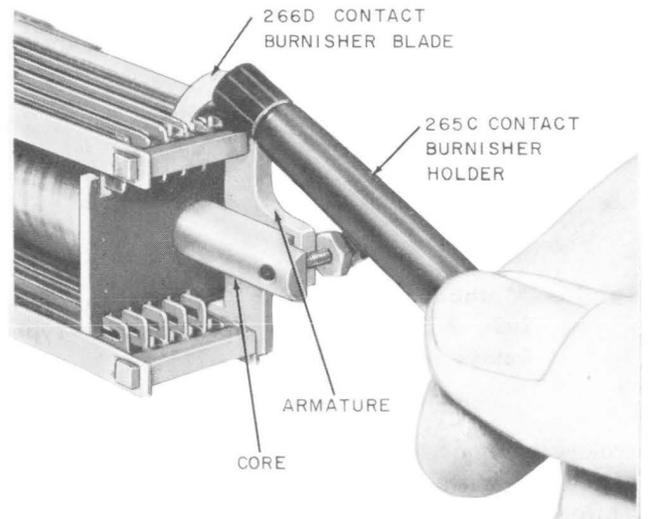
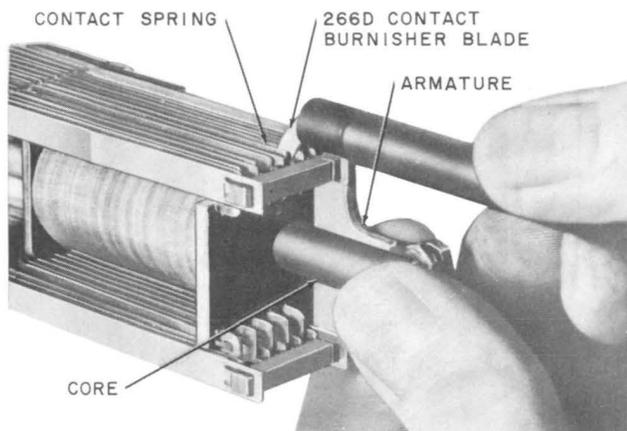

Fig. 14—Method of Inserting Contact Burnisher Blade on UB-Type Relays
Fig. 15—Method of Burnishing Contacts on UB-Type Relays
4.19 UB-Type Relays: Insert the 266D blade in the 265C contact burnisher holder so the outer tip of the blade extends approximately at right angles to the holder as shown in Fig. 14. In burnishing normally open contacts, insert the burnisher blade between the contacts so the blade is over both contacts on the bifurcated spring. Operate the relay manually, giving a slight pressure against the blade, and at the same time move the blade up and down as shown in Fig. 15. In the case of normally closed contacts, operate the relay manually, insert the blade between the contacts and then release the relay. The tension of the springs themselves will usually furnish sufficient pressure against the burnisher blade.